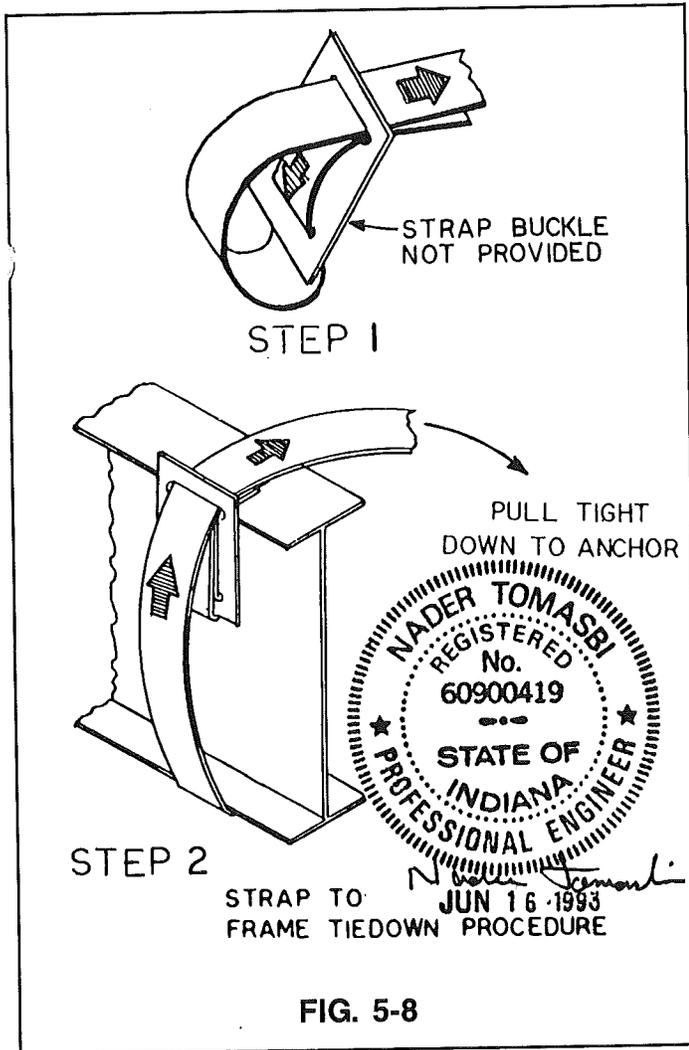

FIG. 5-8
All homes are equipped with tie-down attachment provisions on the main "I" beams (See Figs. 5-8 and 5-9). Over-the-roof straps are optional for both Wind Zone I and II designated homes.
1. Position and install the ground anchors under exterior walls so that the final strap angle and height (H) will be within the limits shown in Tables 5A and 6A.
2. Connect the straps to the frame and ground anchors (See Figs. 5-8, 5-9 and 5-10).